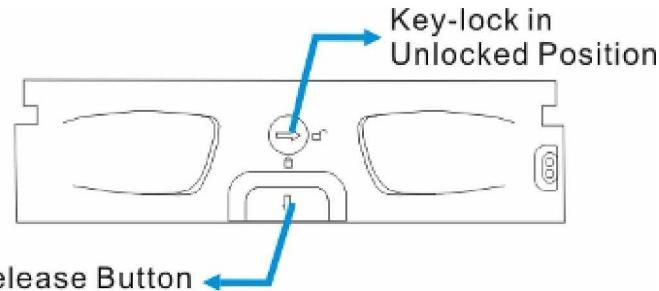

Figure 2-5: Front View of an Individual Drive Tray
- Step 1.** *Make sure the key-lock is in the unlocked position*, i.e., the groove on its face is in a horizontal orientation as shown in **Figure 2-5**. If the groove is in a vertical position, then the key-lock is locked and the front flap on the drive tray cannot be opened.